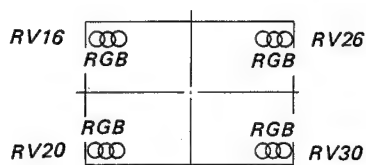

Fig. 1-15.
6. Adjust RV16, RV20 and RV26, RV30 on the DB board to coincide with the R, G and B dots as shown in Fig. 1-15.